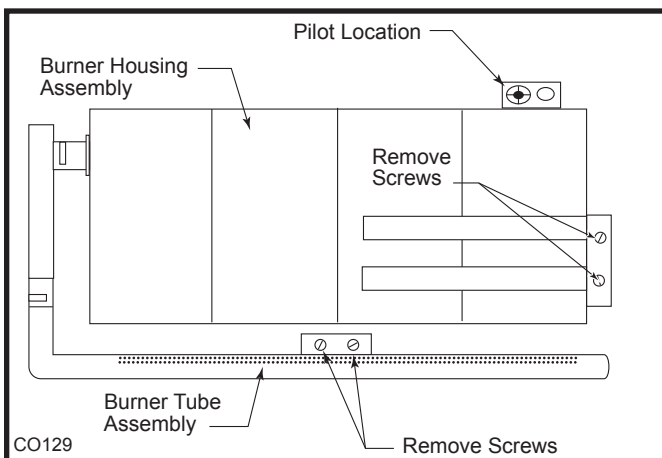

Fig. 77 Remove screws holding burner housing assembly and burner tube assembly.
1. Remove the two (2) screws which secure the burner tube assembly/fettle and the two (2) screws located behind the burner tube assembly which secure the diverter. Remove the four (4) screws that secure the burner housing assembly to the base pan at the right and left end of the burner housing assembly. (Fig. 77)